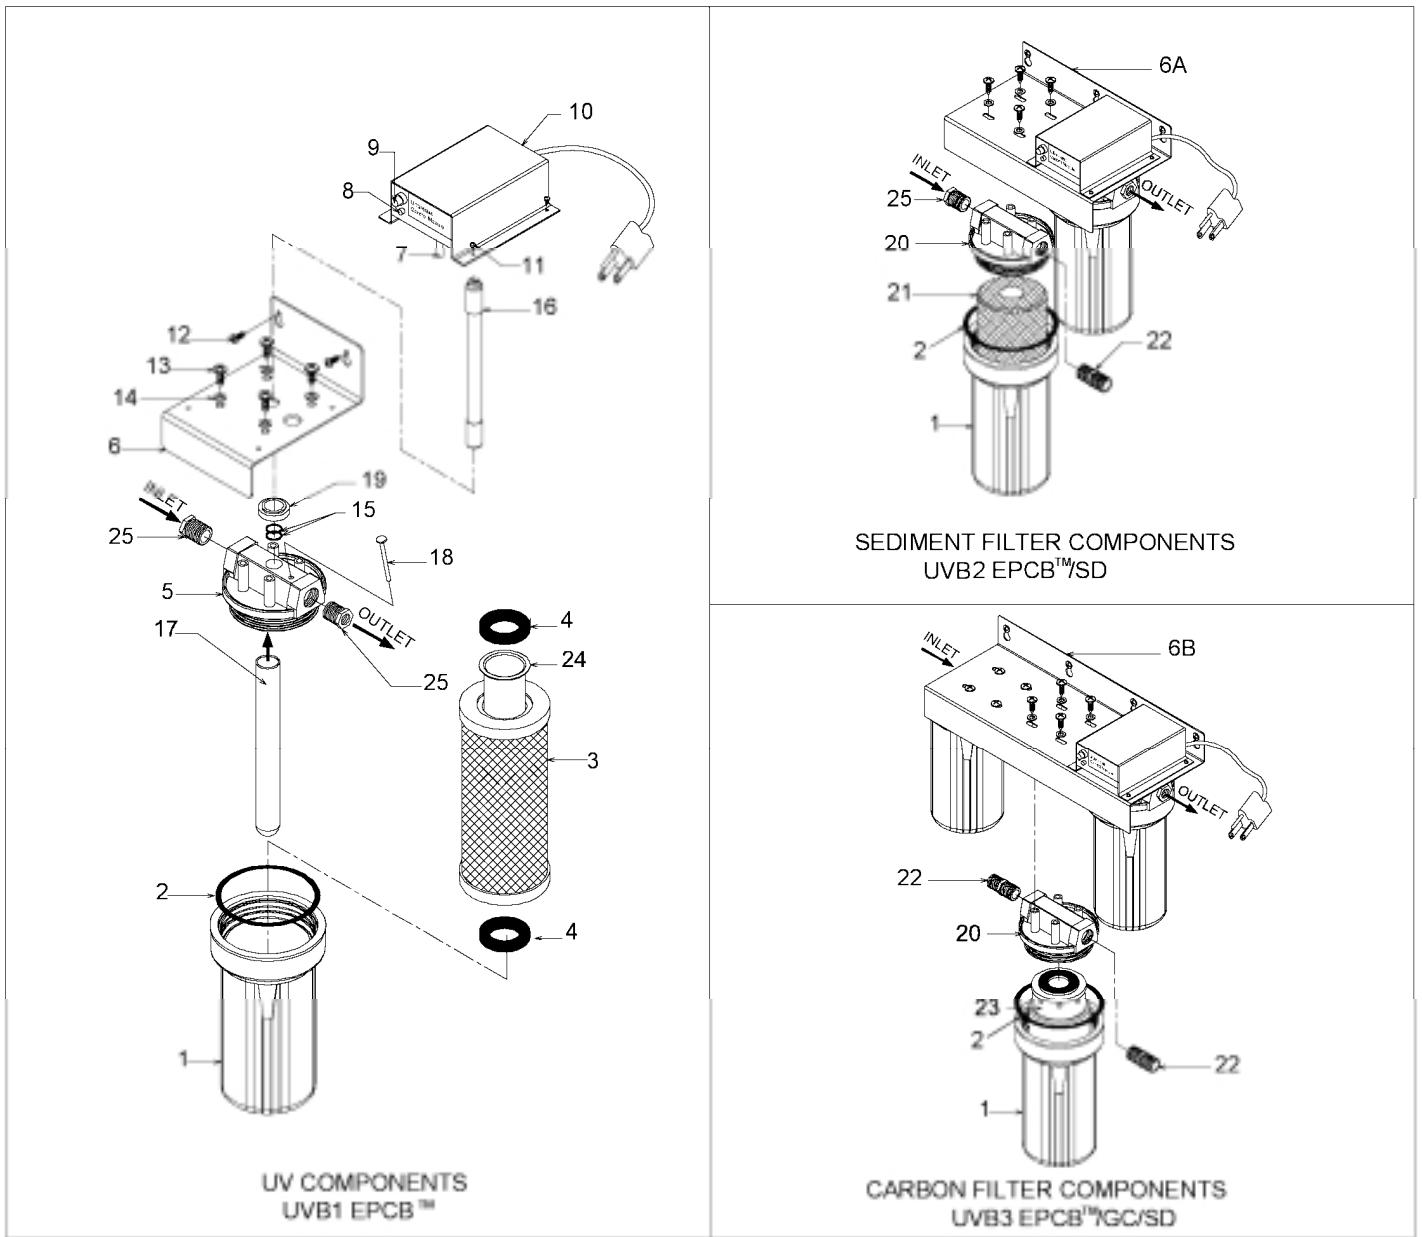

Figure 1 Exploded Schematic, PURA UVB Series
NOTE: All Items refer to Figure 1.
2. Install EPCB™ Sleeve (Item 24) into EPCB™ Carbon Filter (Item 3) as shown in Figure 1.
3. Insert filter/sleeve assembly into sump as shown in Figure 1 with both Filter Gaskets (Item 4) in place.
5. **For UVB2 & UVB3 Models only:** Remove Sump (Item 1) from Filter Head (Item 20). Install Filters (Items 21 and 23) as shown in Figure 1. Install sump onto filter head.
CAUTION: Verify that inlet and outlet ports are connected to appropriate inlet/outlet pipes (see Figure 1).